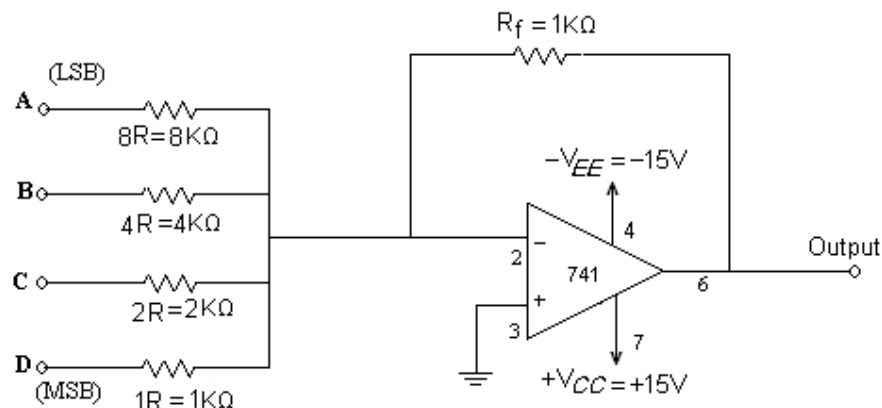

Fig 1: Binary weighted resistor DAC
1. Connect the circuit as shown in Fig 1.